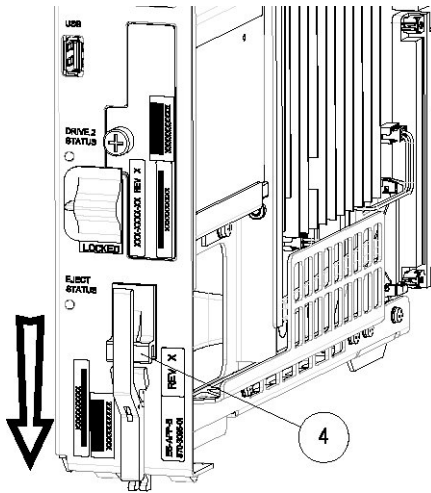

Figure 13: E5-APP-B Card Inject Hardware Switch, LOCKED
6. Slide the E5-APP-B H/S switch (4) down to the LOCKED position (see Figure 13: E5-APP-B Card Inject Hardware Switch, LOCKED).